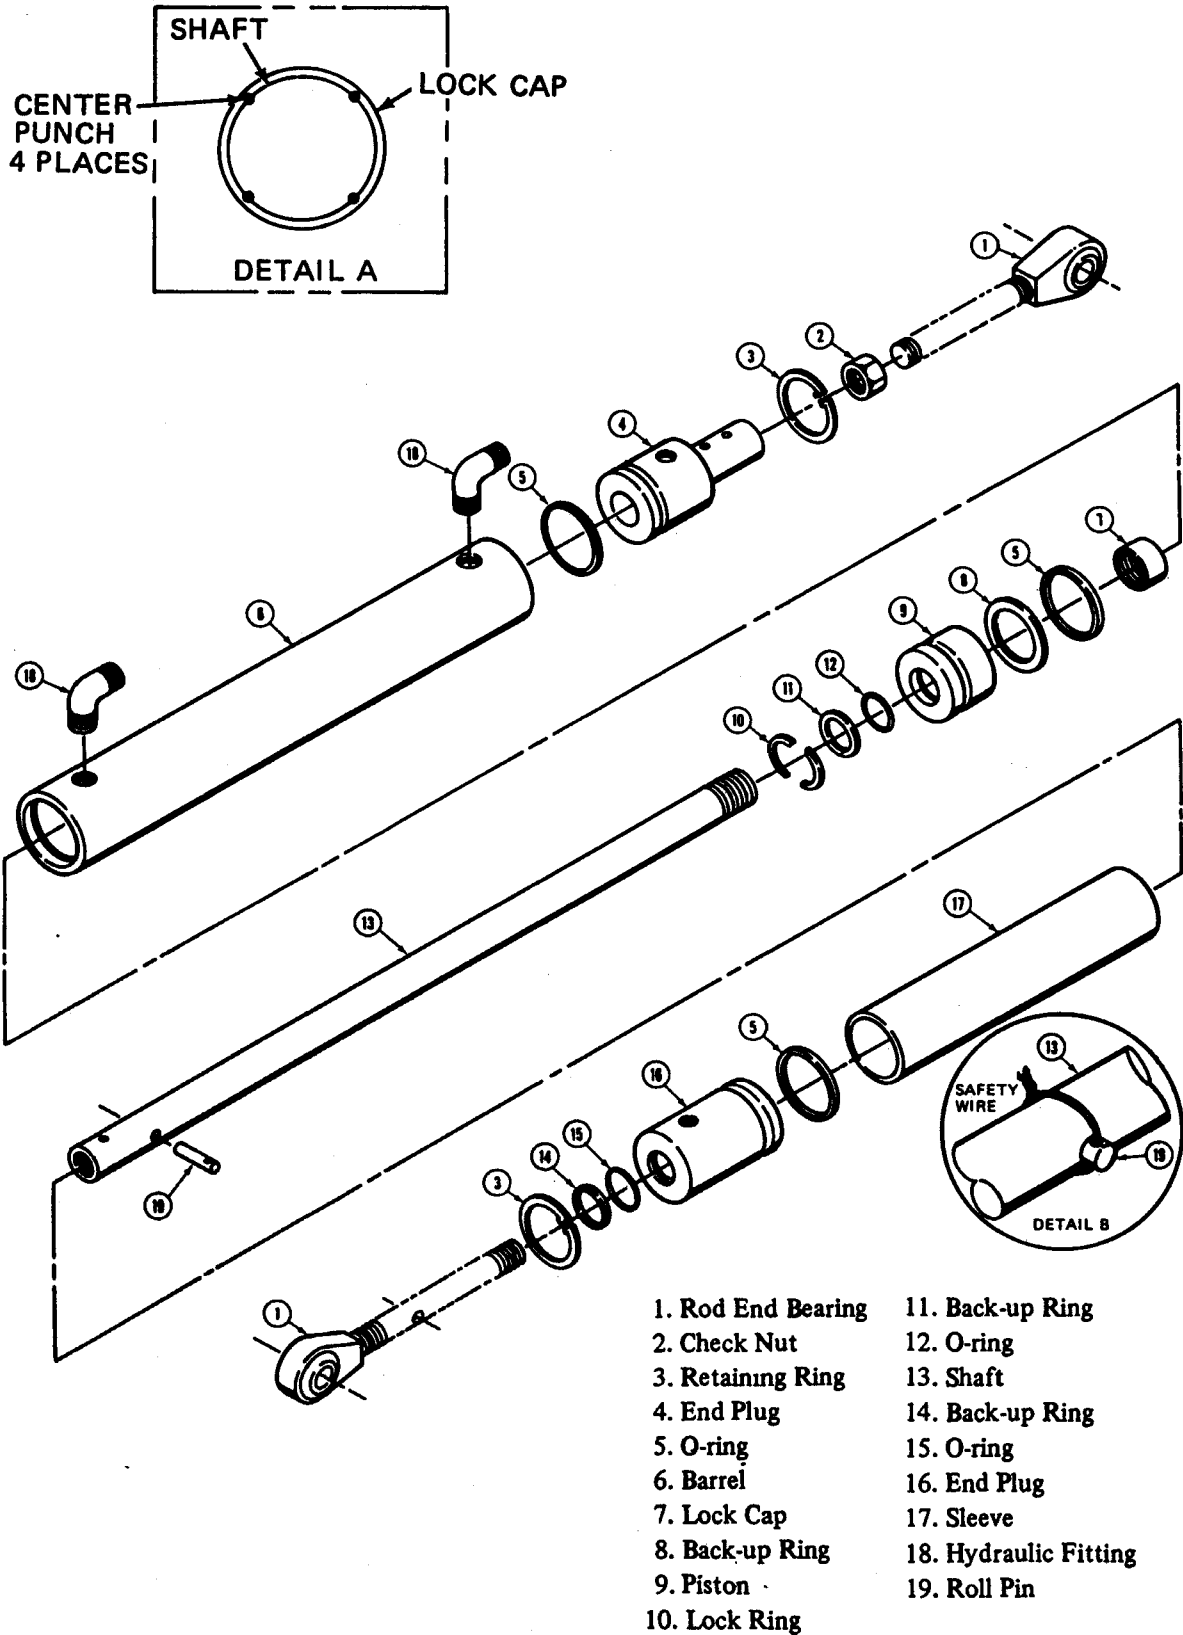

Figure 7-18. Nose Gear Door Actuating Cylinder, Aircraft Serial Numbers 79-30906 and above.
(Figure 7-18). On Aircraft Serial Number 79-30906 and above, perform the following procedures to disassemble and repair the nose gear door actuating cylinder or replace O-rings.
- (3) When the O-ring (12) and back-up ring (11) are installed, do not install them over the threaded end of the shaft.
- (4) When the piston (9) and lock cap (7) are installed on the shaft (13), use a center punch and stake the cap and shaft in four places (see Figure 7-18, Detail A).
- (5) Lubricate the O-rings and surfaces on the inside of the barrel that will make contact with the O-rings with the same type hydraulic fluid that will be used in the system (see Table 7-1), before assembling components inside the barrel.
- (6) Check to see that the check nut (2) is tight and properly safetied to end plug (4).
- (7) Ensure that the roll pin (19) is properly safetied to the shaft (see Figure 7-18, Detail B).